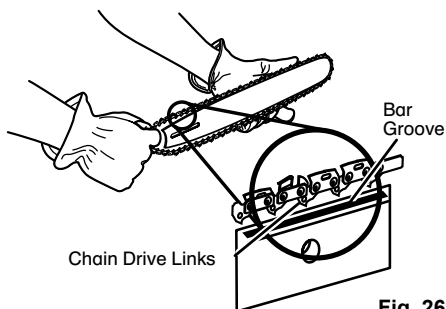

Fig. 26
- Place the chain drive links into the bar groove as shown. (See Fig.26)
- Position the chain so there is a loop at the back of the bar. (See Fig.26)